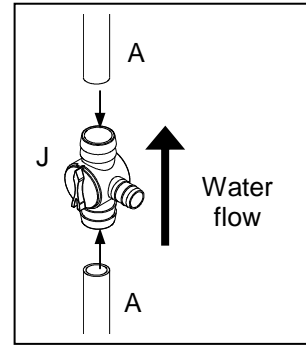

Fig. 2
2. Connect the extension tubes to the diverter valve. Make sure the arrow on the valve is positioned as shown and the diverter valve is connected as shown. Fig. 2